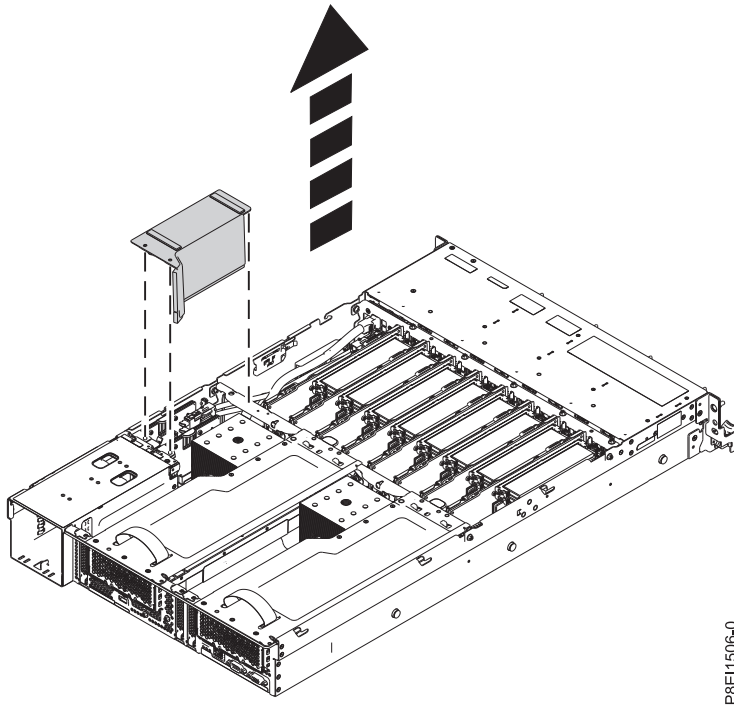

Figure 13. Removing the power riser air baffle
2. Remove the power riser air baffle. See Figure 13.